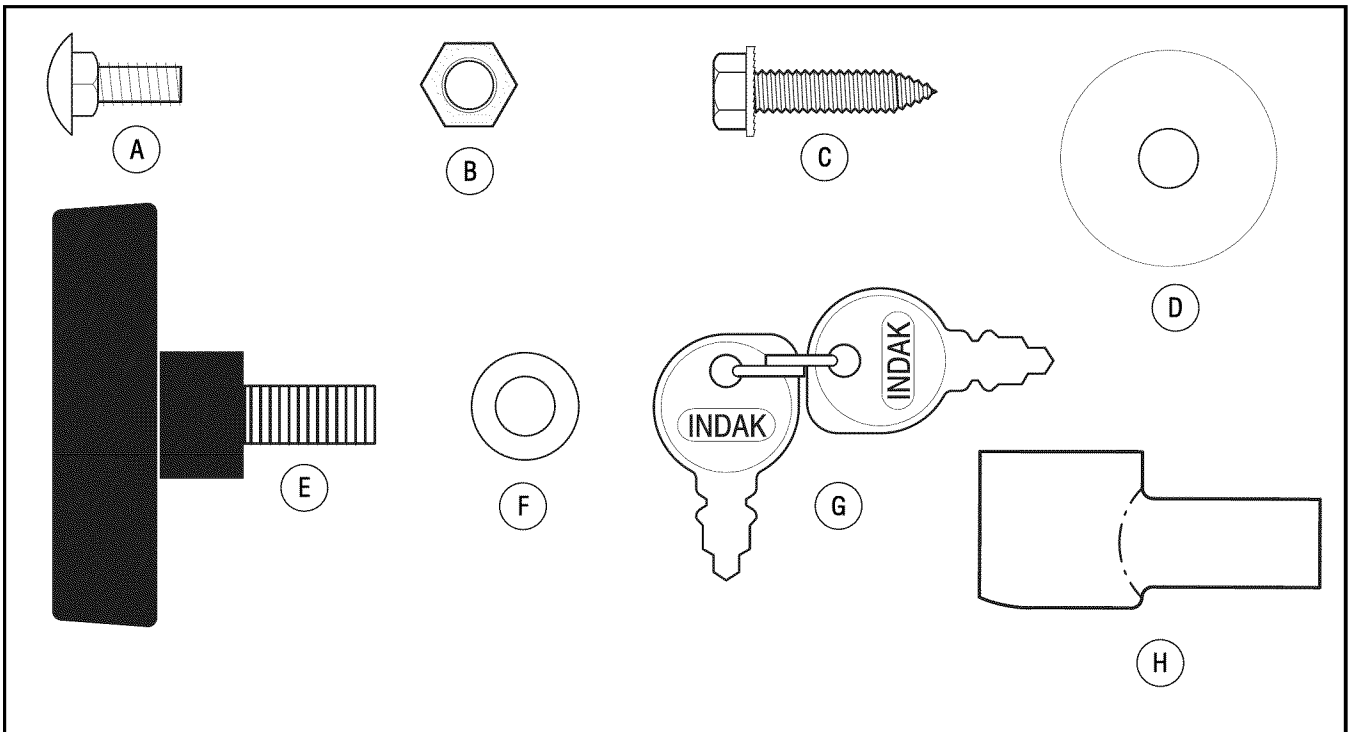

Figure 3: Parts bag components
- A - Wing bolt (Also see 'E' in Figure 3)
B - Washer (Also see 'F' in Figure 3)
- A - Screw (Also see 'C' in Figure 3)
B - Washer (Also see 'D' in Figure 3)
- A - Carriage bolt (Also see 'A' in Figure 3)
- B - Hex nut (Also see 'B' in Figure 3)
- H - Terminal cover (Also see 'H' in Figure 3)